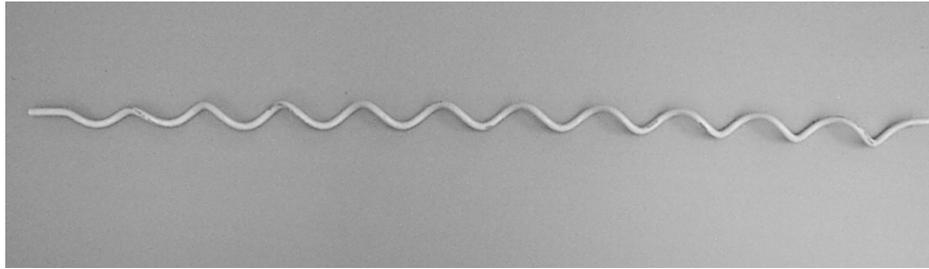

Figure 4 – Spiral Vibration Dampers – see OFS AN-812 *Recommendations for Vibration Damping*.
4.7 Vibration dampers are recommended and can be purchased through either Preformed Line Products or Tyco. See OFS Applications Note AN-812, *Recommendations for Vibration Damping* (Figure 4)